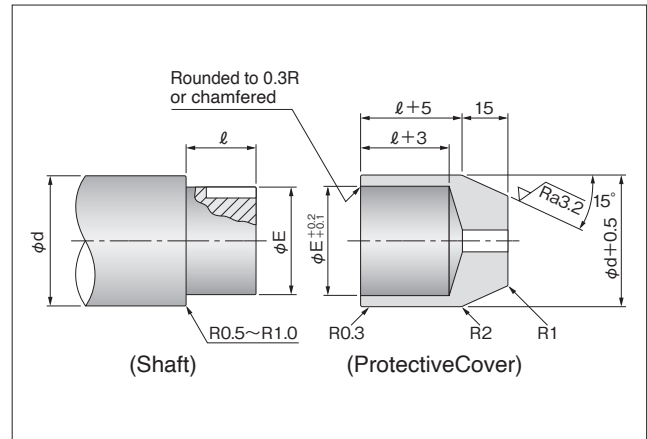

Fig. 7-13 Protective Key way/Spline Cover
- ❹ If the shaft has key ways or splines, the seal's lip edge may be damaged. Cover the shaft as illustrated in Fig. 7-13.
- ❶ Check that the shaft end is free of burrs or other defects.
- ❷ Use an installation jig when there are key ways or splines on the shaft. (Refer to Fig. 7-13 on page 48.)